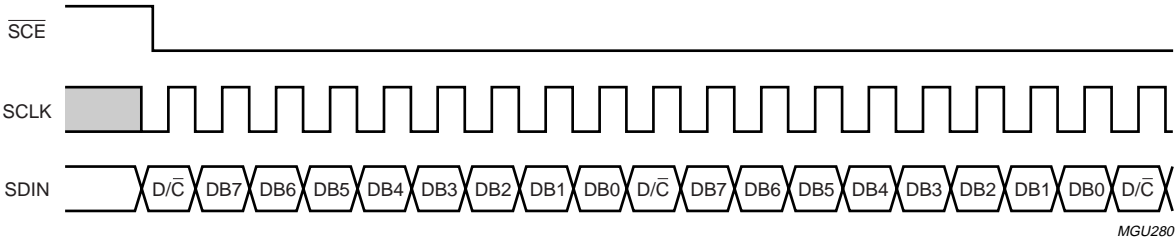

Fig.13 Write mode: transmission of several bytes.
- If  $\overline{\text{SCE}}$  stays LOW after the last bit of a  $\overline{\text{command}}$  or data byte, the serial interface expects the  $\text{D}/\overline{\text{C}}$  bit of the next byte at the next rising edge of SCLK (see Fig.13)